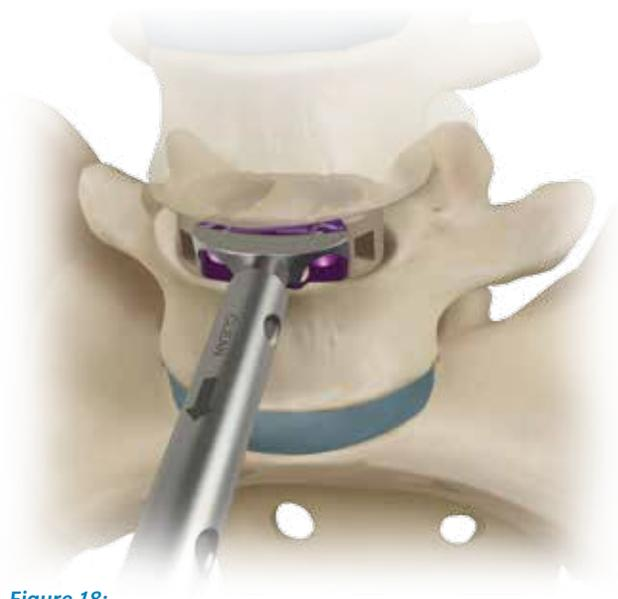

Figure 18:
- Insert the assembled implant into the disc space (Figure 18). Radiographically confirm the position and placement of the implant.